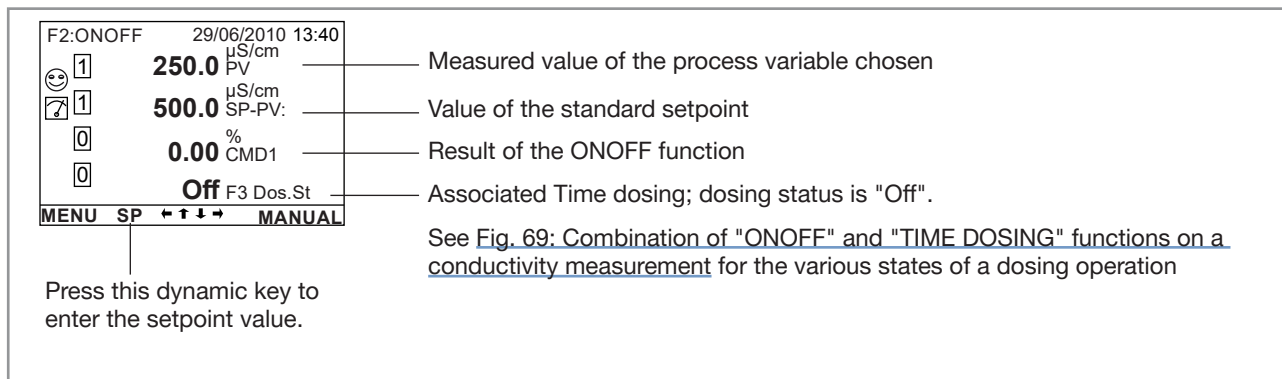

Fig. 70: Example of a view, in Process level, of the ONOFF function associated with a time dosing function
- ON: the mode and the value of the setpoint cannot be modified in the Process level without entering an access code. Refer to Fig. 70. To switch the mode between the manual mode and the automatic mode or to change the value of the setpoint, first enter the access code of the "Parameters" menu. The default access code is "0000" (see section 9.4).